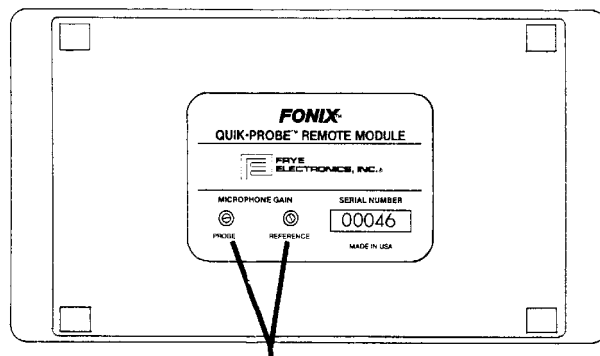

Figure 2.6.4A—Screw adjustments on bottom of remote module
- c. If the number you see under REFERENCE is not within 1 dB of the calibration value (114 for the Quest QC-10), adjust the gain of the reference microphone with a small screwdriver using the control marked REFERENCE, on the bottom of the Quik-Probe module (see Figure 2.6.4A).
- e. The number under PROBE should be within 1 dB of the calibration value. If necessary, adjust the gain of the probe microphone with a small screwdriver using the control marked PROBE, on the bottom of the remote module (see Figure 2.6.4A).